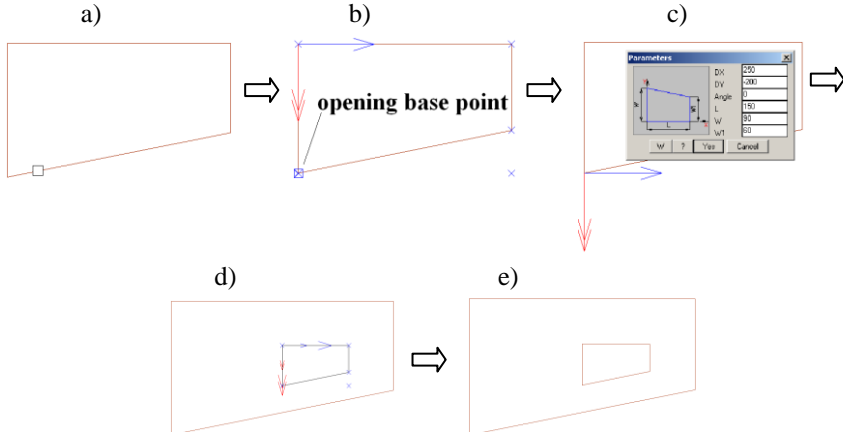

Fig. 4.14 “Opening” operation, example 1
**by contour #R / Base point:* Specify an opening base point. It will be the nearest Part point to the specifying point, see fig. 4.14 a).
*redefine base point #N / *direction along CS of object #C / 1-st direction point*: Press **Enter** to determine the operation coordinate system (hereinafter CS) by Part CS, see fig. 4.14 b).
Enter the opening parameters and the opening position parameters in the dialog window, see fig. 4.14 b).
*rotation angle #E / reverse X #X / reverse Y #Y / reference point #N / *apply #G*: Press **Enter** to create the opening as you see in the preview view, see fig. 4.14 d).
Allows you to redefine the operation base point. You can specify one of the highlighted points, see fig. 4.14 b).
**by contour #R / Base point:* Specify an opening base point. It will be the nearest Part point to specifying point, see fig. 4.14 a).